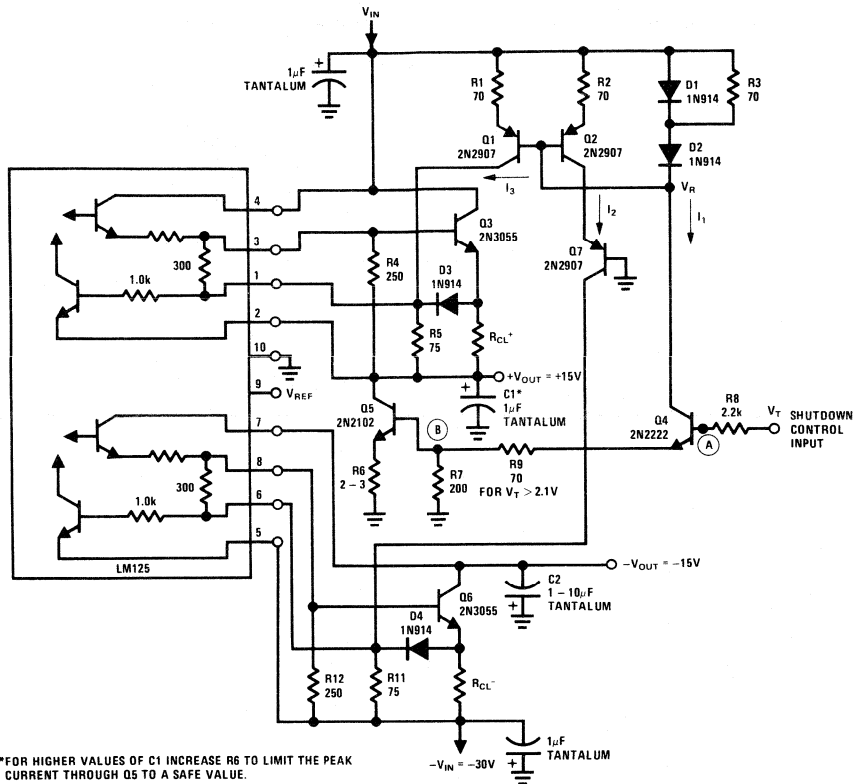
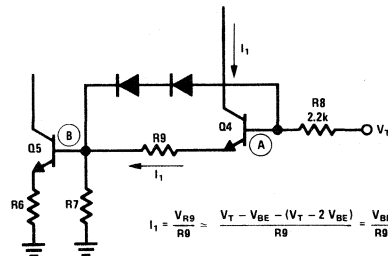

FIGURE 7.33. Electronic Shutdown for the Boosted Regulator
FIGURE 7.34.
The circuit in Figure 7.33 provides complete electronic shutdown of both regulators. The shutdown control signal is TTL compatible but by adjusting R8 and R9 the regulator may be shutdown at any desired level above $2 V_{BE}$, calculated as follows:
Capacitor C2 discharges through the load. Q7 shares the total supply voltage with Q2, thus limiting power dissipation of Q2. Another power dissipation problem may occur when the design is done for $V_T = 2.0V$ for example, and V_T is increased above the preset threshold value. I_1 is increased and Q4 has to dissipate $(V_{IN} - 3 V_{BE} - V_T) I_1$ (W). The simplest solution is to increase R8. If this is insufficient, a set of diodes may be added between nodes A and B to clamp I_1 to a reasonable value. This is illustrated in Figure 7.34.
Figure 7.34 the diode D1 in Figure 7.33 may be omitted. The shutdown characteristics of Figure 7.33 are shown in Figure 7.34.